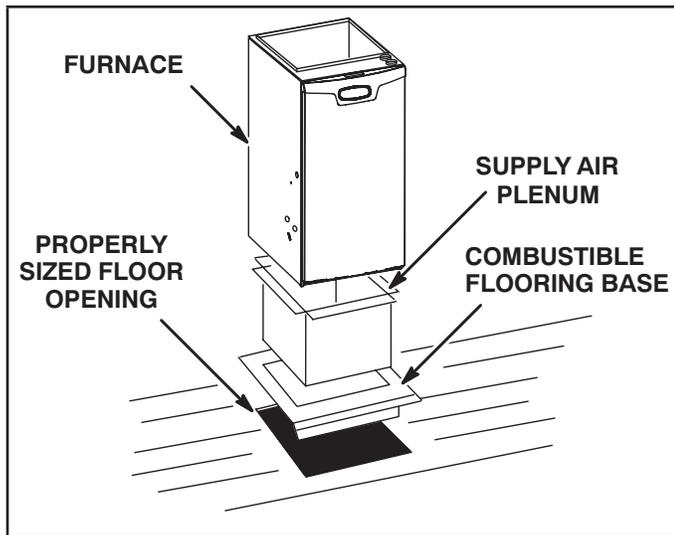

FIGURE 15
**Installation on Combustible Flooring FIGURE 15**